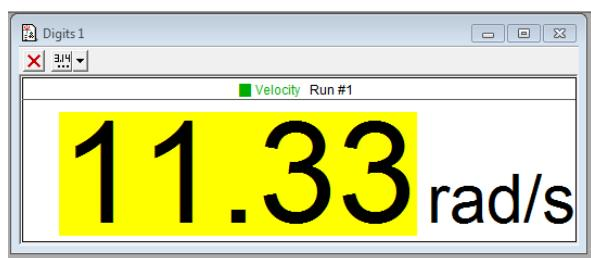

Figure 2: The digit display of instantaneous angular frequency in DataStudios.
12. Record this angular speed (when the orange indicator is centered in the ring indicator) from the software (see Figure 2).